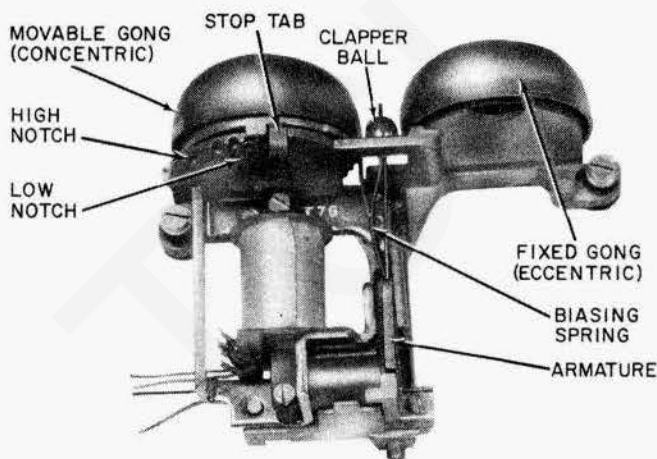

Fig. 1—C4A Ringer
- Update Fig. 1, 2, and 3 to show latest version of C4A ringer